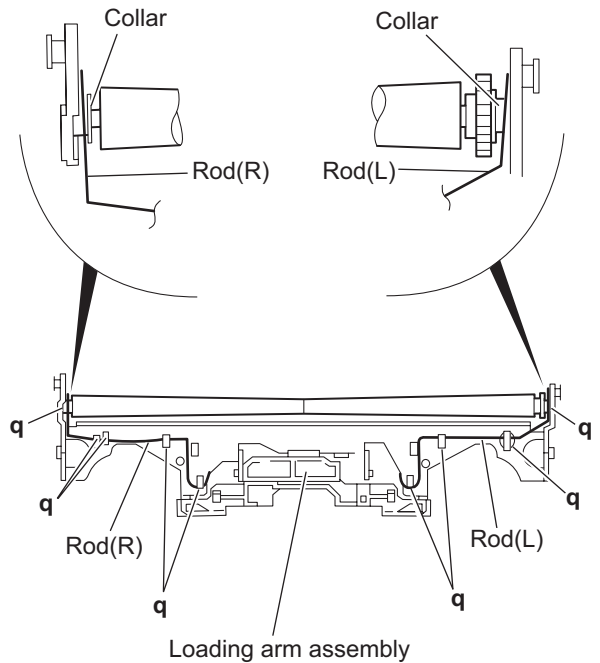

Fig.15
### 3.3.8 Removing the rod (L)(R)/roller assembly (See Fig.15 and 16)
- Release the rod (L) and (R) from the joints **q** at the bottom of the loading arm assembly (See Fig.15.)
After attaching the loading arm assembly to the roller assembly, attach the rod (L) and (R). Attach the rods to the right and left collars of the roller. (See Fig.15.)
When reattaching the rod (L) and (R) to the loading arm assembly, engage each joint as shown in Fig.15. As joints **q** of the rod (L), let the rod through **q** before reattaching it.